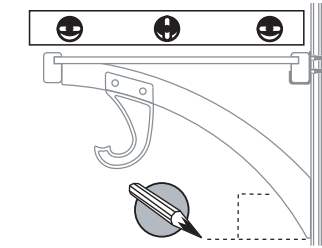

FIG. 6.0
- Place angle bracket square with shelf underside and back wall. Mark hole location and mark line at the bottom of Angle Bracket against wall (Fig. 6.0).